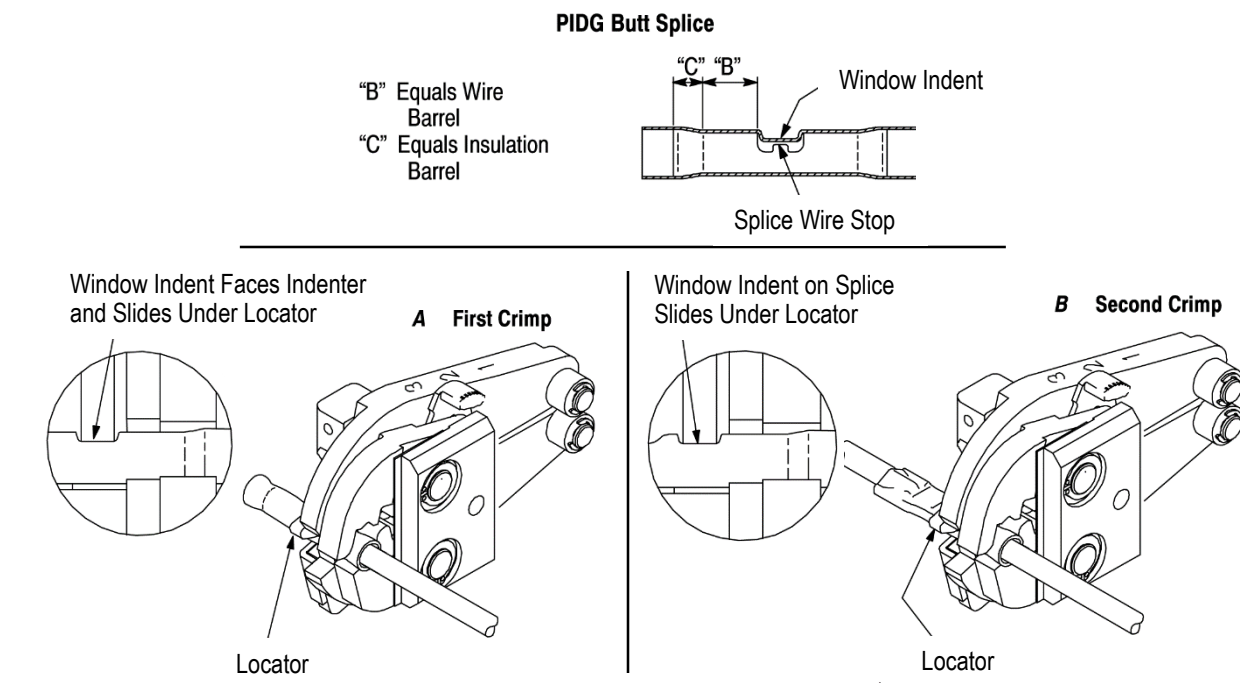

Figure 4
2. Open crimping jaws by squeezing rollers together simultaneously. Position splice between crimping jaws so that the window indent slides under the locator of crimp head. See Figure 4, A.
4. Insert stripped wire into wire barrel of splice until the end of the conductor is against the splice wire stop. See Figure 4, Top View.